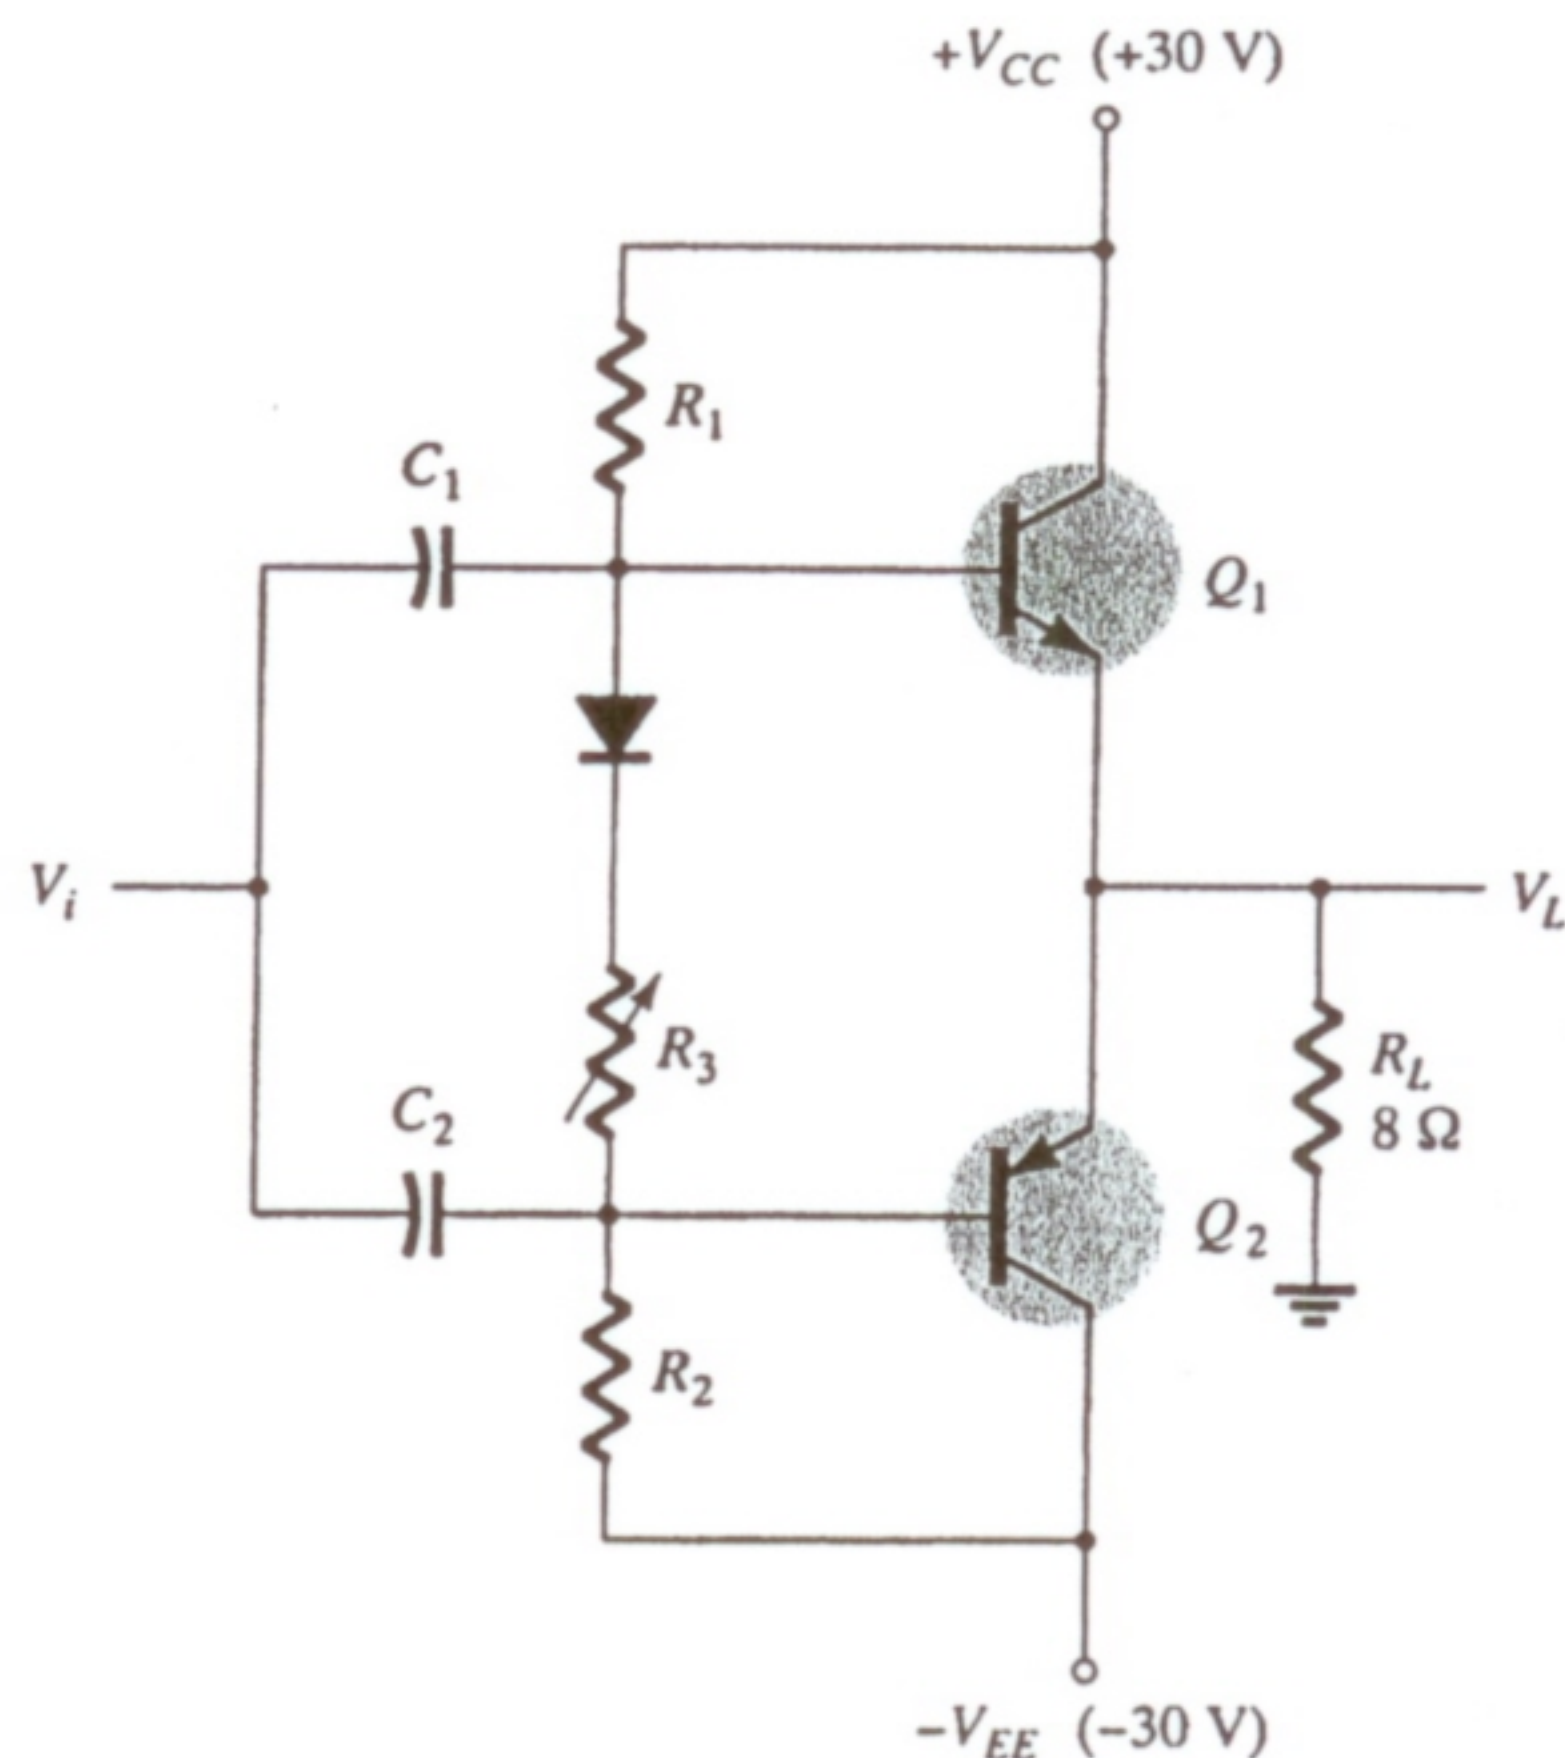

FIG. 12.36
16. For the class B power amplifier of Fig. 12.36, calculate:
- *17. If the input voltage to the power amplifier of Fig. 12.36 is 8-V rms, calculate:
- *27. Use Design Center to draw the schematic of Fig. 12.36 with $V_i = 25\text{ V(p)}$. Determine the circuit efficiency.